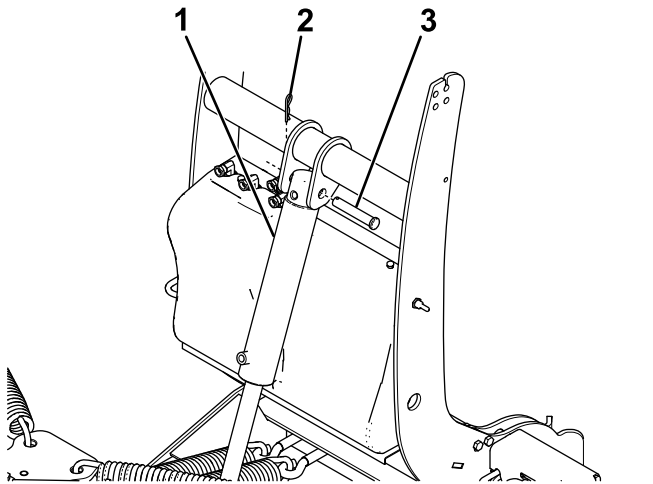

Figure 13
- Secure the free end of the lift cylinder to the coupler tower using a clevis pin (5/8 inch) and hairpin cotter (Figure 13).